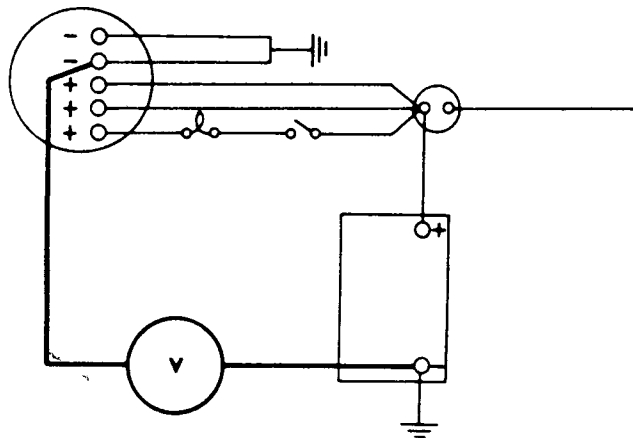

Fig O3.3
(4) Refer to Fig O3.3. Transfer voltmeter connections to battery earth and alternator negative terminal.
(5) Switch on all vehicle lighting, headlights on main beam.
(6) Start the engine and run at 3000 rev/min. Note the voltmeter reading. Stop the engine.
(7) The voltmeter readings in steps (3) and (6) should not be greater than 0,5 volts. Higher readings indicate an unwanted high resistance in the circuit.